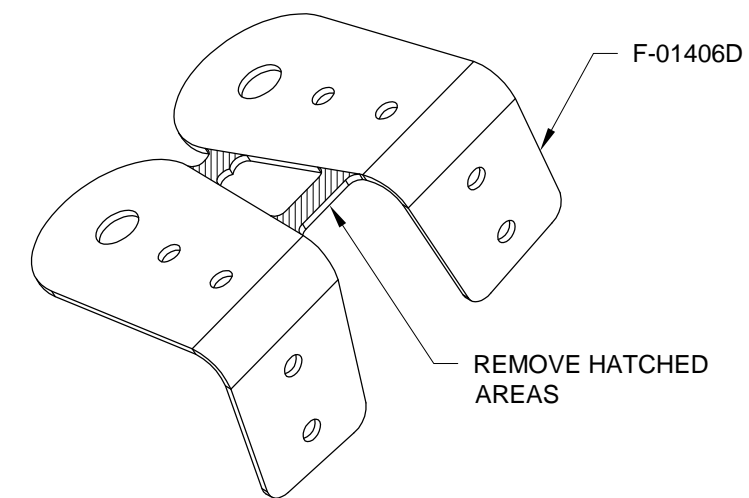

FIGURE 3: SEPARATE SHOULDER HARNESS LUG CLIPS
Step 3: Separate the F-01406D Shoulder Harness Lug Clip as shown in Figure 3.